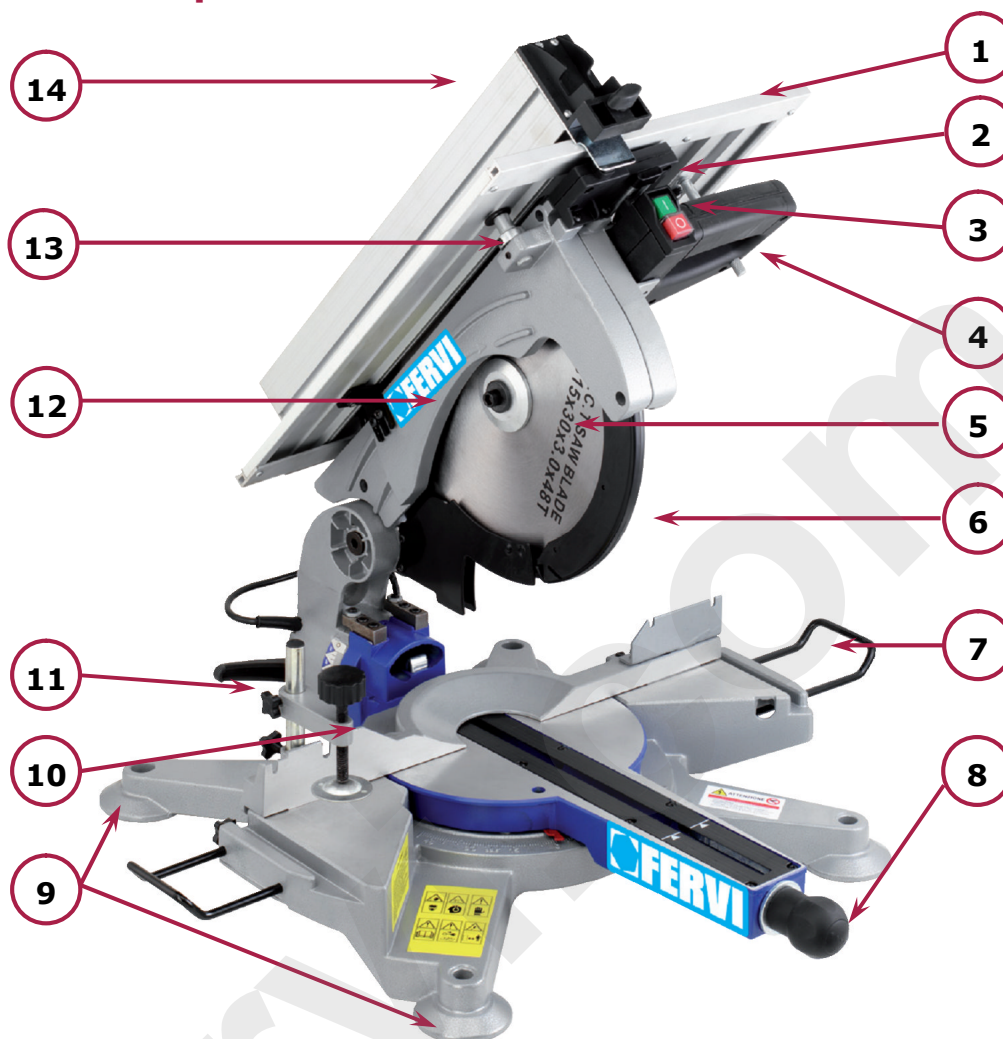

Figure 1 – Main parts of the mitre saw Art. 0275.
At the front part of the machine there is a knob (8 in Figure 1) for locking the head in an angled position relative to the base. The angle can be discovered by referring to the graduated scale (21) positioned below the base and which is revealed by the rotation itself.